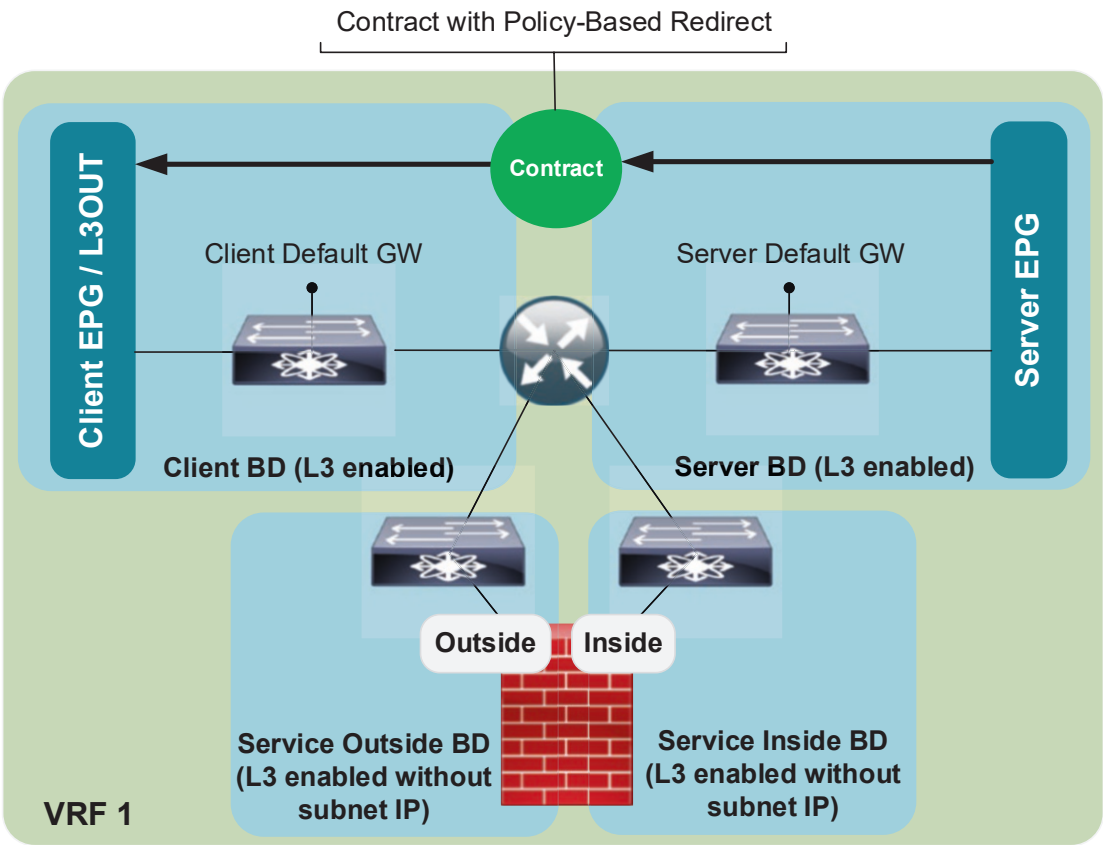

Figure 8-11. Transparent policy-based redirect to two-arm L4-L7 node
2. **Go-Through (Transparent Mode) with PBR:** Policy-based redirection is supported in a very similar way for transparent bridging via an intermediate L4-L7 appliance. Now the transparent device can be connected two-arm only using two dedicated service bridge domains. Although their unicast routing has to be enabled, they are configured without any specific subnet IP address (as illustrated in Figure 8-11). The consumer/provider bridge domains are L3 enabled and the regularly provided default gateway. Also, transparent redirect doesn't require any specific changes to the rest of the application profile.